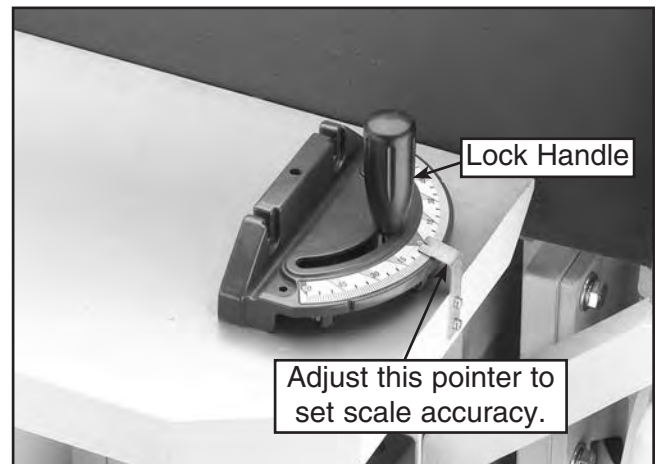

Figure 16. Main table miter gauge.
1. Loosen the lock handle shown in **Figure 16**.